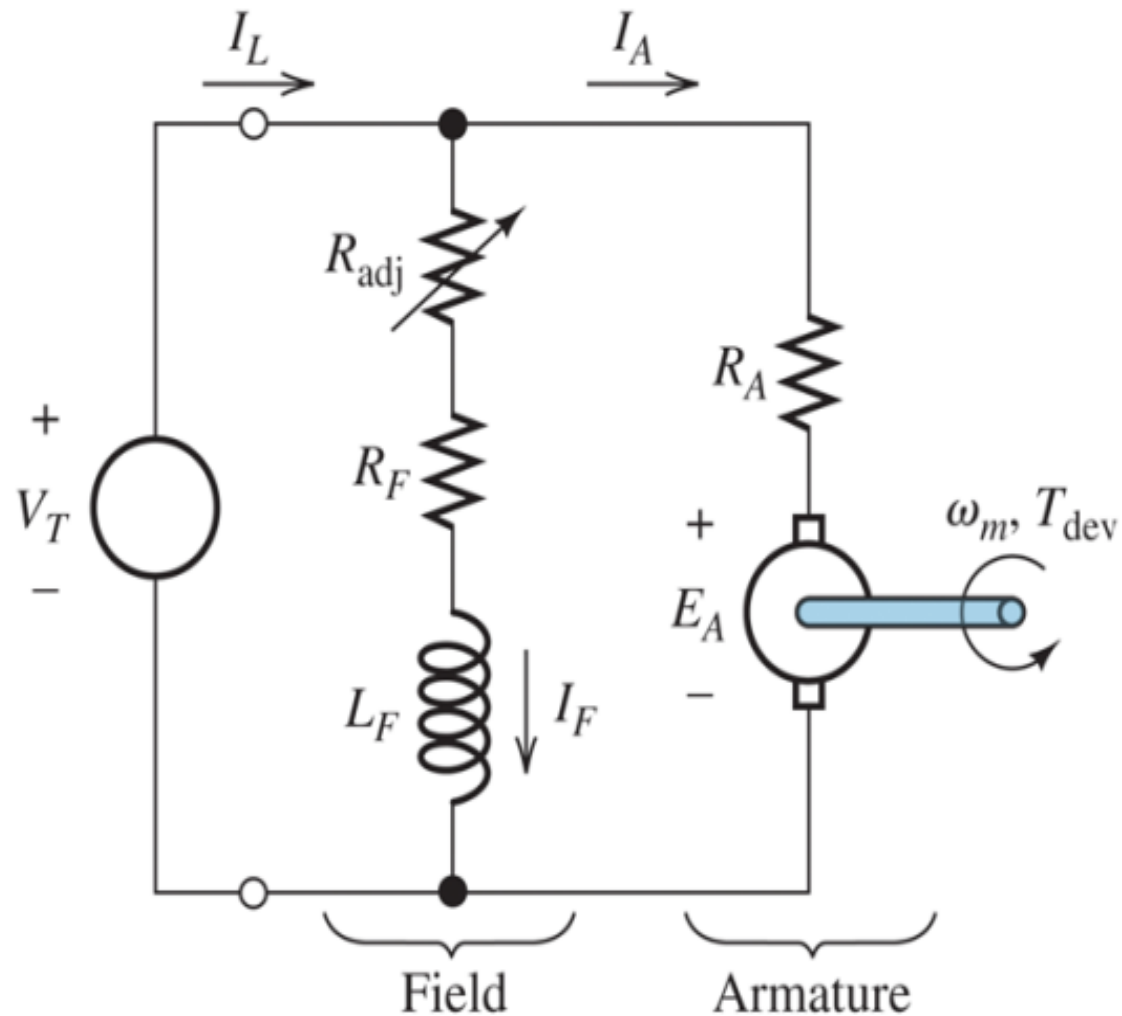

Fig. 5.16 Equivalent circuit of a shunt-connected DC motor.
- As shown in Fig. 5.16, in the shunt connected DC motor the field and the armature windings are connected in parallel and both are supplied from a single source.